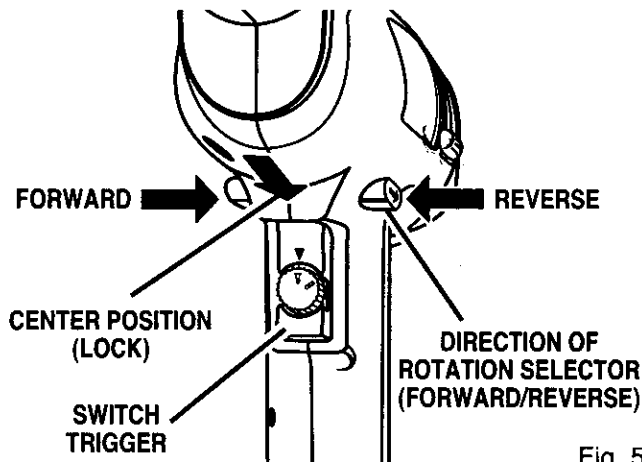

Fig. 5
See Figure 5.
- Lock the switch trigger by placing the direction of rotation selector in center position. See Figure 5.